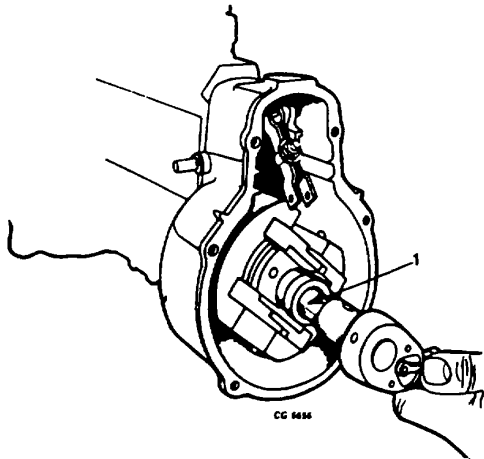
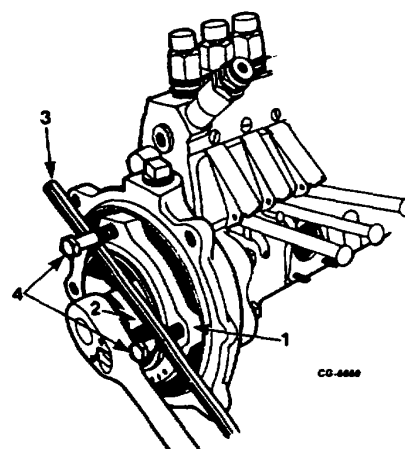

Figure 12. Removing Cylindrical Nut
Figure 17. Removing Camshaft Nut
12. Install two 3/8 NC x 3-1/2 bolts in the drive flange (Figure 17). Using SE-2344 remover tool on slotted cylindrical nut and holding bar between bolts to hold camshaft, remove the cylindrical nut (Figure 12) and spacer shim under the nut. It may be necessary to use small quantity of lube on nut to extract spacer shim.
4. Using holding bar to hold drive hub, remove camshaft nut and washer (Figure 17).